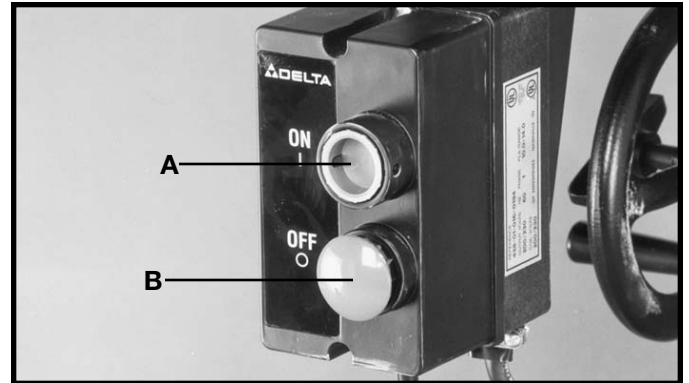

Fig. 106
To apply power to the machine, push "ON" button (A) Fig. 106. To stop the machine, push "OFF" button (B).